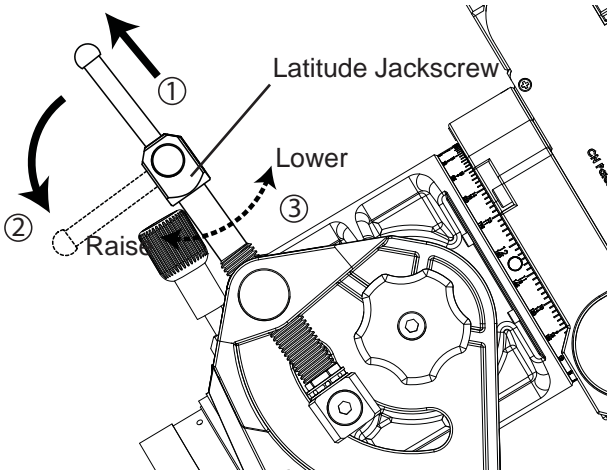
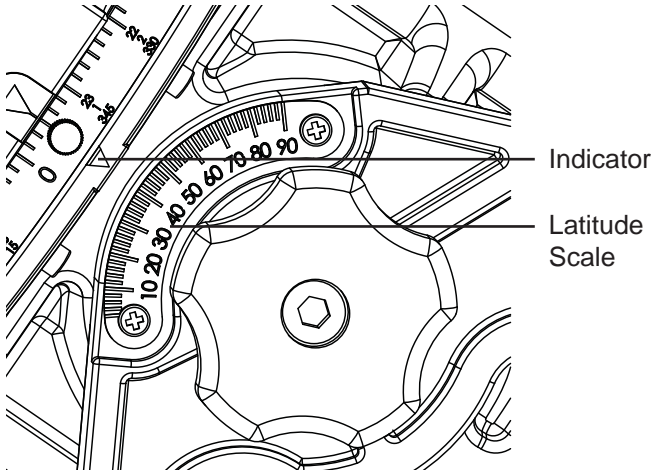

Fig. 2.3b
Fig. 2.3c
- 2. Pull out the handle stowed in the latitude jackscrew (Fig. 2.3b), and use it to turn the jackscrew to set the R.A. axis's elevation to a specified angle by referring to the latitude scale on the left side of the mount. (Fig.2.3c)
3. Stow the handle into the jack screw after the adjustment. (Fig. 2.3b)